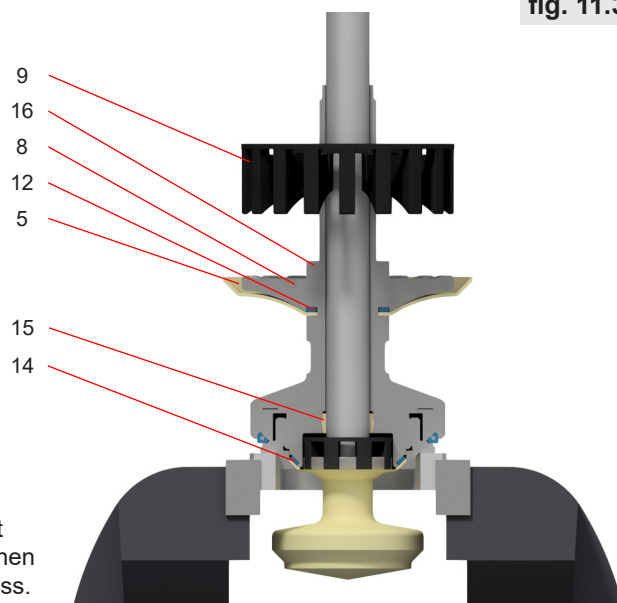

fig. 11.3.2
12. Unscrew the upper diaphragm coupling (16) with a SW34 wrench and lift it over the tie rod. Hold the upper shaft to keep it from turning. For DN40, 50, 1,5", 2" use the wrench AM1 shaft assembly complete. For DN65, 2,5", 3" a SW34 wrench can be used as well.
13. Lift the star (8), the O-Ring (12) and the diaphragm (5) over the tie rod.
14. Unscrew the upper shaft (2) from the tension disc (4). For DN40, 50, 1,5", 2" use the wrench AM1 shaft assembly complete, for DN65, 2,5", 3" a SW34 wrench can be used as well.
15. Lift the upper shaft (2) over the tie rod. Take the fan support (11), O-Ring (14) and bushing (15) out of the upper shaft. (see fig.11.3.2)
16. Take off the seat seal (6) with the carrier ring (7). Pull the seat seal off the carrier ring.
17. Take the tension disc (4) with the lower shaft and the star and the tie rod out of the insert assembly tool.
19. Place the centering disc (23) over the tie rod and unscrew the tie rod with a SW17 wrench off the lower shaft.
7. Assemble the yoke (19) on the actuator (20) with the 4x hex. screws (22).
8. Assemble the seat seal (6) on the carrier ring (7). Ensure the correct assembly direction.
9. Screw the tension disc (4) on the upper shaft until the metal stop is reached. Use a non-permanent marker to fix the end position. Unscrew the tension disc (4).
10. Assemble the bushing (15) and O-Ring (14) on the upper shaft. (see fig. 11.3.2)
11. Place the tension disc (4) over the tie rod, then deform the diaphragm of the lower shaft (3) with two fingers and pull it through the inner diameter of the tension disc.